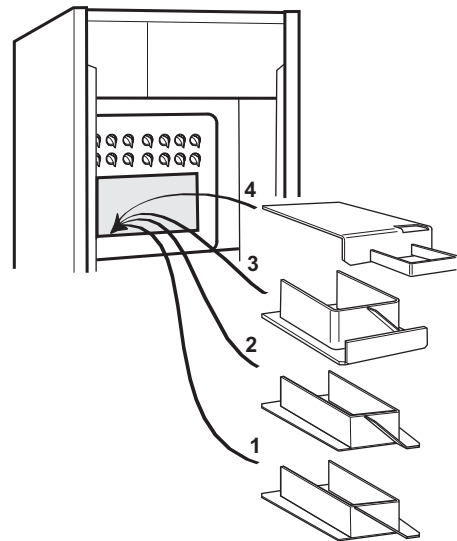

Fig. 25 - 15/21 baffles
- 2 Remove the baffles as shown in Fig. 25, 26, 27 or 28.
- 6 Replace the baffles, ensuring they are correctly fitted. See Fig. 25, 26, 27 or 28.